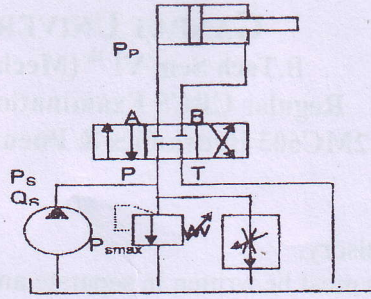

Fig. 3 Que. 2(c)
- (c) Explain bleed of circuits shown in fig. 3 and when such kind of arrangements is 3